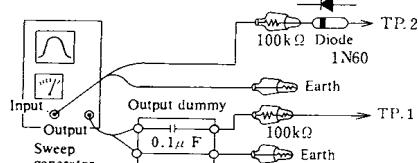

Fig. 6
- (3) When connecting the sweep generator (input side) with TP.2, insert a 1N60 diode between them. (See Fig. 6.)